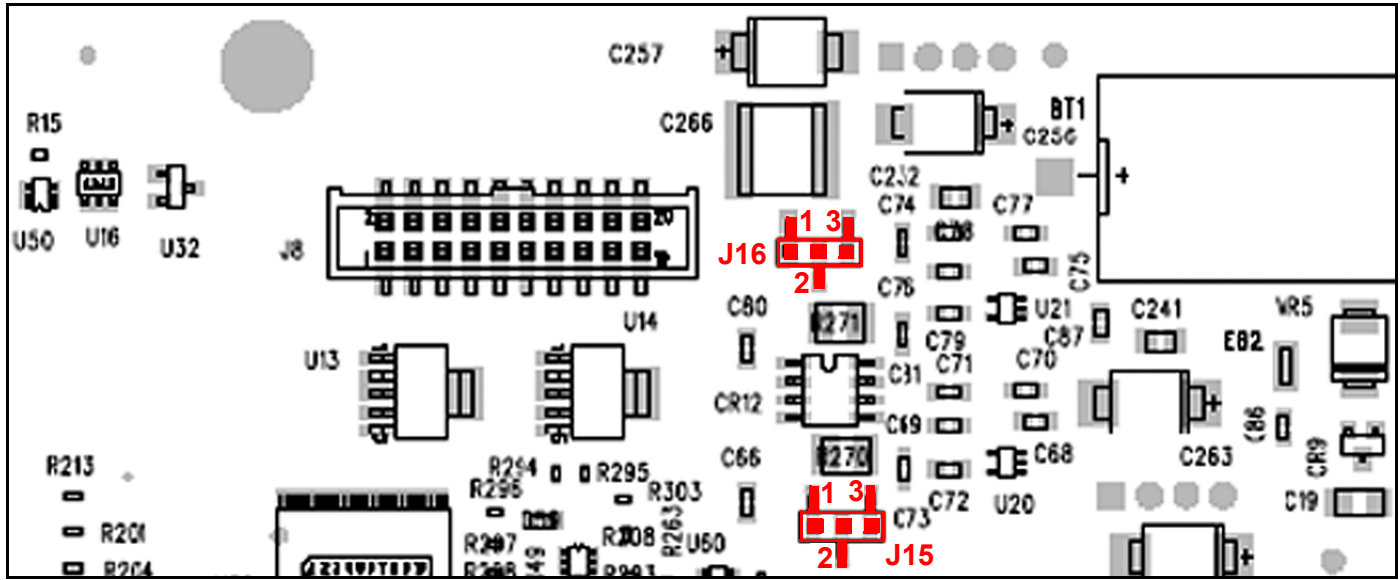

Figure 27: RS-485 Mode Termination - Install Jumpers at J15 and J16, Pins 1 and 2
- Using long-nose pliers, move jumpers J15 and J16 from pins 2 and 3 (default setting from factory) to pins 1 and 2 (see *Figure 27* on page 28). J16 is the termination for port 1 and J15 is the termination for port 2. It is also recommended that basic ESD precautions such as grounded wrist straps be used for this procedure.
For multiple **Aurora H2O** units connected in daisy-chain fashion to the RS485 interface, it is important that the farthest unit away from the transmitting device be the only unit incorporating any termination (see *Figure 27* below). All other units must have jumpers J15 and J16 in positions 2 & 3 (default setting from the factory). For more details on RS-485 wiring or operation, refer to TIA/EIA-485-A Specification.